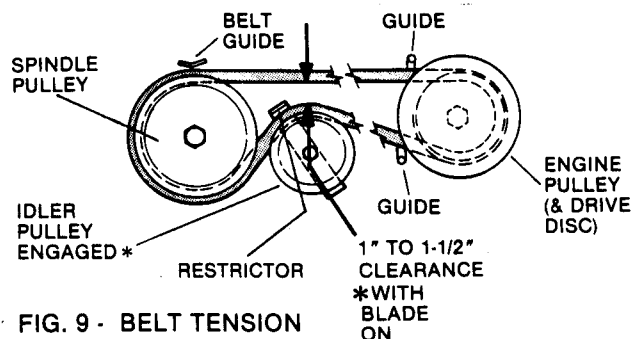

FIG. 9 - BELT TENSION
With the mower deck in the #5 height position and the blade in the ON position, check the distance between the inside surfaces of the belt as shown in FIG. 9 - the clearance should be from 1" to 1-1/2". The belt tension is adjusted by changing the "distance" between the main tube's vertical bracket (X) and the FRONT of the rear case. Remove the shoulder bolt (Y) from above the main tube and pull the front assembly FORWARD, increasing the belt tension until the correct amount is achieved. Remove one or more spacers as needed, from in front of the vertical bracket and move to the backside (between the bracket and the case). Then reinstall and securely tighten the shoulder bolt (Y).
If the belt becomes frayed, cracked, or worn, replace it as follows: Remove the BELT COVER, then cut and remove the old belt. To install a new belt, close the fuel cap (10-C) valve. Stand the mower on the REAR BUMPER (14-C), shift into NEUTRAL, and work the belt between discs, then shift into #5 speed and push belt over edge of engine drive disc. Work belt into the groove of the drive disc, then position other end in pulleys on mower deck as follows: Loosen or remove the idler pulley, loop the belt around spindle pulley as shown in FIG. 9 and work belt between restrictor and idler pulley.